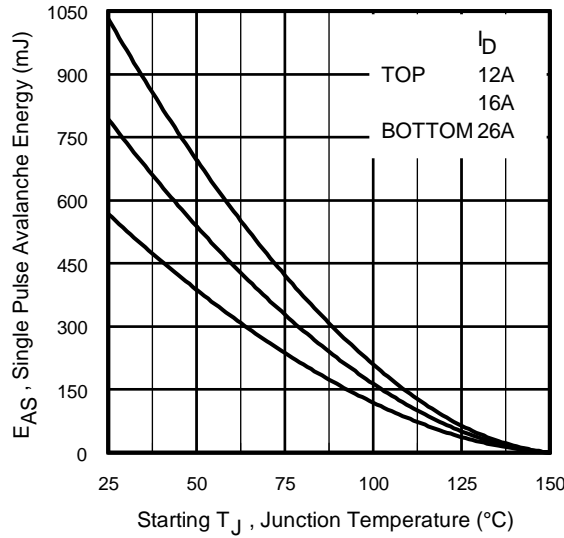

Fig 14a. Maximum Avalanche Energy vs. Drain Current
② Starting $T_J = 25^\circ\text{C}$, $L = 1.7\text{mH}$, $R_G = 25\Omega$, $I_{AS} = 26A$, (See Figure 14a)
③ $I_{SD} \leq 26A$, $di/dt \leq 719A/\mu s$, $V_{DD} \leq V_{(BR)DSS}$, $T_J \leq 150^\circ\text{C}$.
④ Pulse width $\leq 300\mu s$; duty cycle $\leq 2\%$.⑤ $C_{oss \text{ eff.}}$ is a fixed capacitance that gives the same charging time as C_{oss} while V_{DS} is rising from 0 to 80% V_{DSS} .